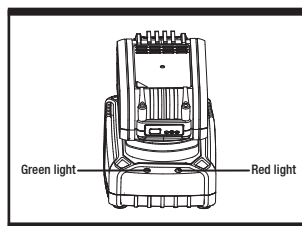

Fig.A3
3. HOW TO CHARGE YOUR BATTERY PACK (SEE FIG. A3)